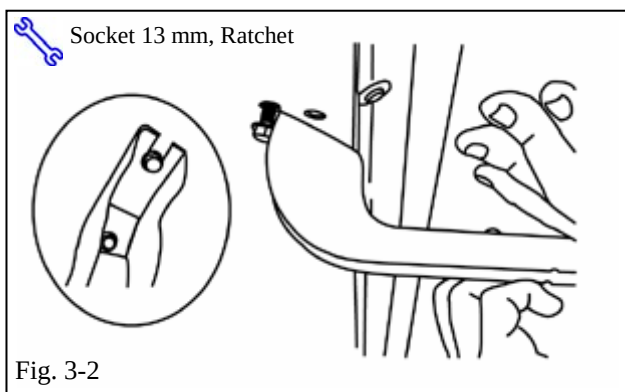

Fig. 3-2
- (b) Engage slot of center bracket under head of M8 x 25 bolt, slide upwards and snug with socket wrench to secure position. (Fig. 3-2)